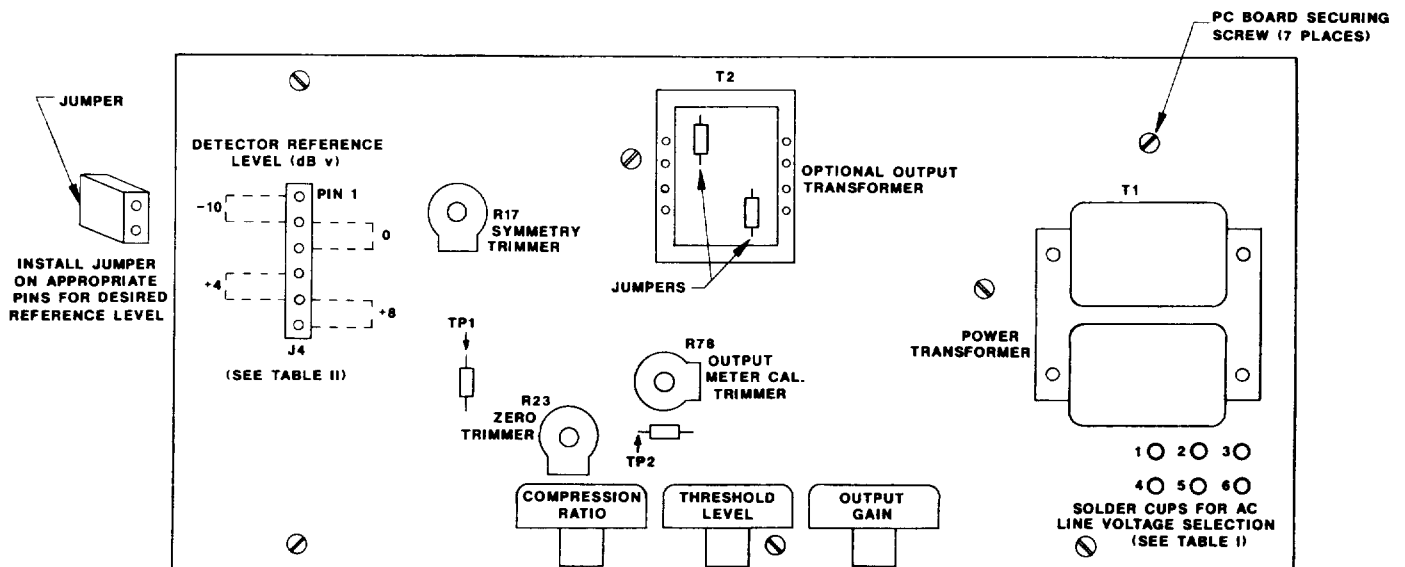

Figure 1. Location of Pertinent Components on Circuit Board
3. Locate the six voltage selection solder cups on the right side of the circuit board in front of the power transformer. See Figure 1 for location. Referring to Table I, unsolder the jumper wires from the solder cups and resolder them in
3. Select the desired nominal level by placing the jumper on two pins of the six-pin male connector (J4) located near the upper left edge of the circuit board as shown in Figure 1. Table II shows the pin
4. Feed a 1 kHz signal at the selected nominal level (the level desired for a "0 dB" meter indication) to the signal input. Then adjust the meter calibration trimmer (R78) located near the center of the circuit board until the meter indicates "0 dB". See Figure 1 for location of calibration trimmer.
3. Remove the seven screws securing the printed circuit board. Locate the mounting holes near the top of the circuit board. See Figure 1 for these locations.
4. Apply an input signal of 100 Hz sine wave at 0 dB (0.775 Vrms) to the input connector. Connect oscilloscope probe to TP1 (see Figure 1 for location) and observe a mildly distorted 200 Hz sine